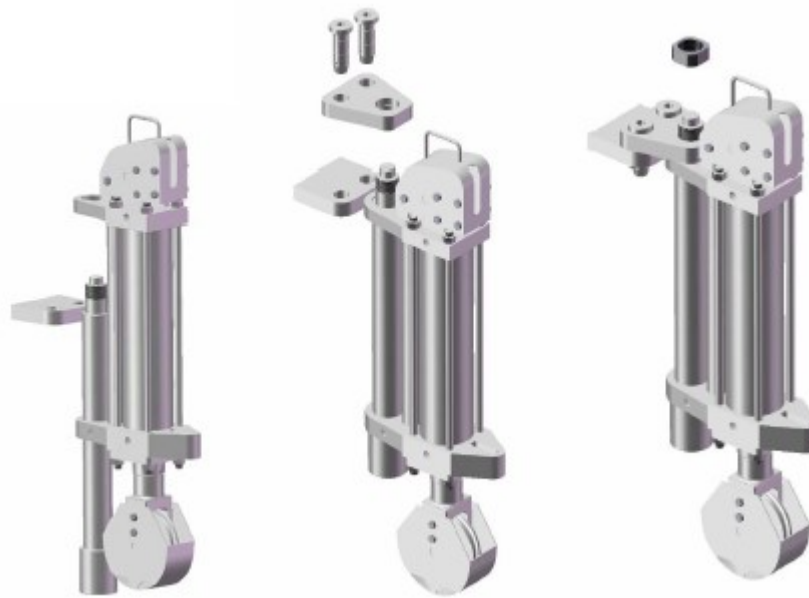

Figure 7
Slide the cylinder onto the backup post and install the top anchor plate and the two (2) pins (see Figure 7). Add the retaining nut and two (2) cotter keys. The retaining nut need not be super tight. Use a drop of Loctite ® or silicone sealer to keep it in place.